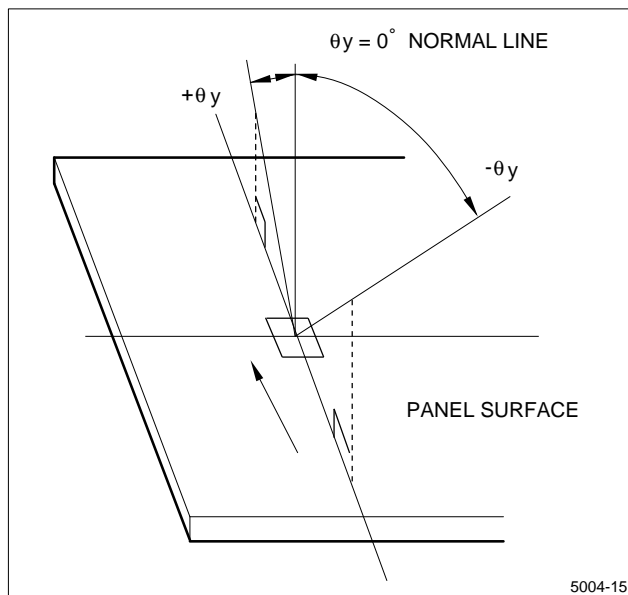

Figure 13. Dot Matrix Viewing Angle
- Industrial (Mechanical) design of the product in which this LCD unit is incorporated must be made so that the viewing angle characteristics of the LCD are optimized. This unit's viewing angle is illustrated in Figure 13 and as follows: